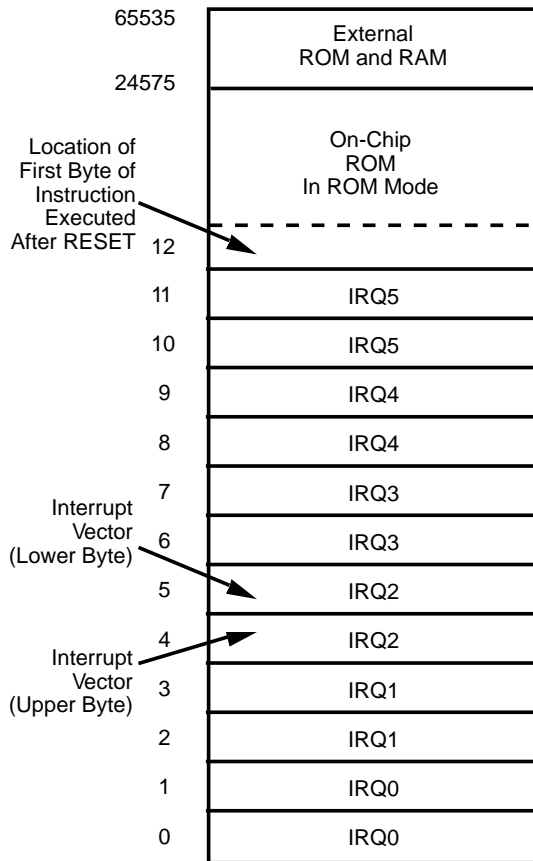

Figure 17. Program Memory
**Program Memory.** The Z8 addresses up to 24 KB of internal program memory and 40 KB external memory (Figure 17). The first 12 bytes of program memory are reserved for the interrupt vectors. These locations contain six 16-bit vectors which correspond to the five user interrupts and one DSP interrupt. Byte 12 to byte 24575 consist of on-chip mask-programmed ROM. At addresses 24576 and greater the Z8 executes external program memory. In ROMless mode, the Z8 will execute external program memory beginning at byte 12 and continuing through byte 65535.